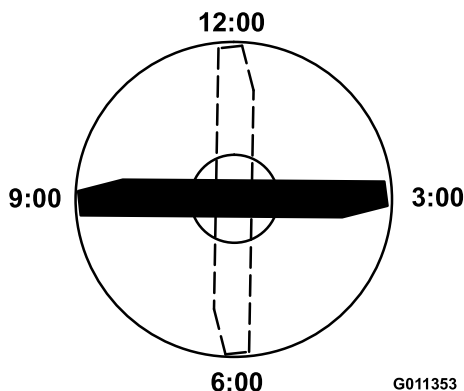

Figure 88
4. Position the cutting edge of the marked end of the blade at 12 o'clock (straight ahead in the direction of mowing) (Figure 88) and measure height from table to cutting edge of blade.
5. Rotate the marked end of the blade to the 3 and 9 o'clock positions (Figure 88) and measure the heights.